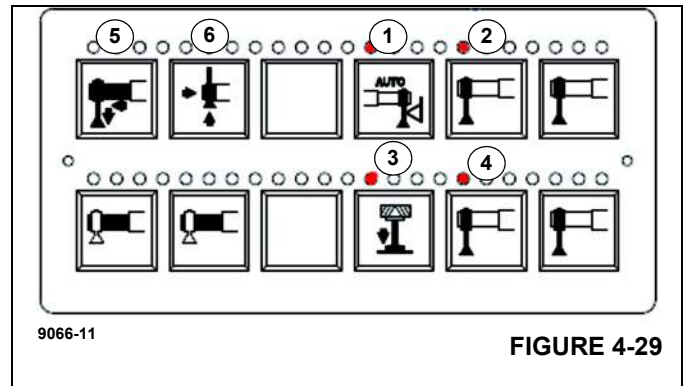

FIGURE 4-29
**NOTE:** The red LEDs (1 thru 4), (Figure 4-29) over the Center Front Stabilizer (CFS), Auto-Level, and both rear jack push buttons are on when the Cribbing
5. Enter Cribbing Mode by quickly pressing the **Center Front Stabilizer** (Figure 4-29) push button twice. Cribbing Mode is now activated.
1. If not pressing Outrigger Extend or Retract - red LEDs above the CFS and Auto Level will illuminate as shown in (1) and (3), (Figure 4-29).
2. If pressing Outrigger Extend - red LEDs above the CFS, Auto Level and both rear jacks will illuminate (same as with the Cribbing Mode Active Indicator) as shown in (Figure 4-29). Extending the front main jacks or retracting the rear main jacks will reduce CFS pressure.
3. If pressing Outrigger Retract - red LEDs above the CFS, Auto Level and both front jacks will illuminate (Figure 4-29). STOP, raise the CFS to adjust.
- A.** From either the Carrier outrigger keypad, press and hold the auto-level button (1), (Figure 4-29) and either extend/retract (5), (6), (Figure 4-29) keys,
- Extend the Center Front Stabilizer (CFS) as shown in (4), (Figure 4-29).